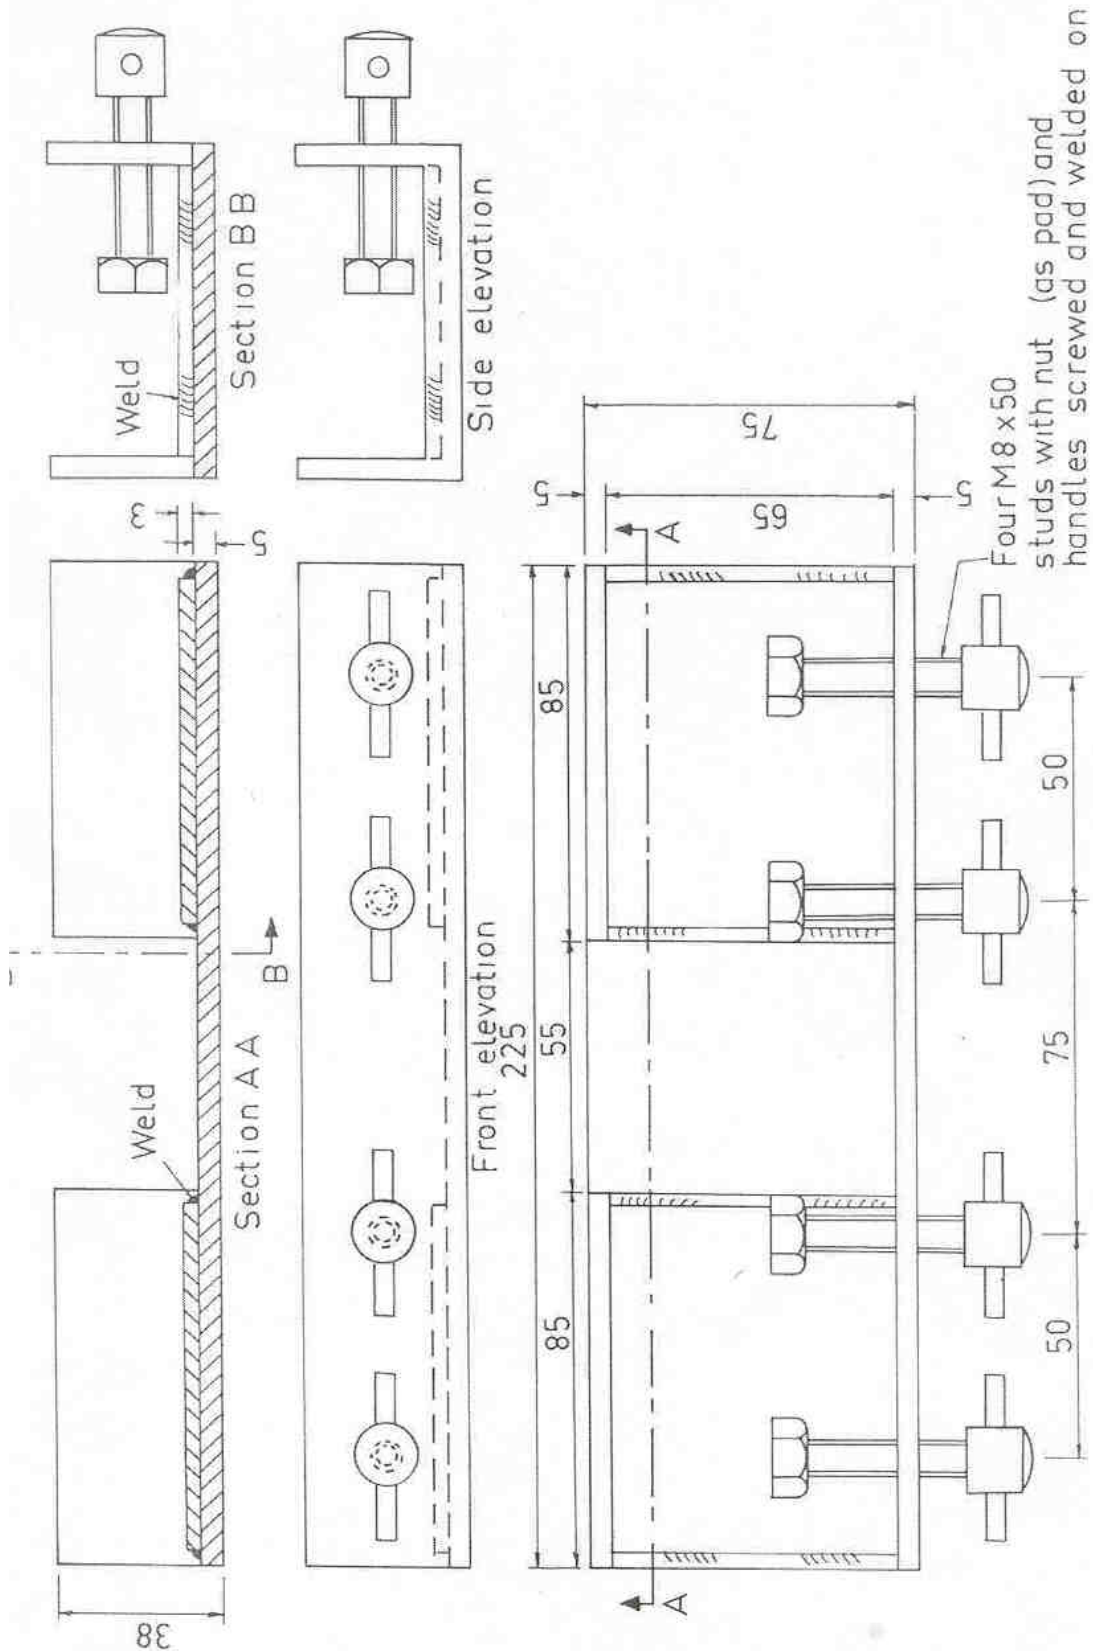

Figure 1: Transfer jig for Fuel Immersion Test for Fuel Resistant Hot Poured Joint Sealing Compounds (Test Method N° T1174)
- (b) A transfer jig. A suitable design derived from BS 2499 is illustrated in Fig. 1.